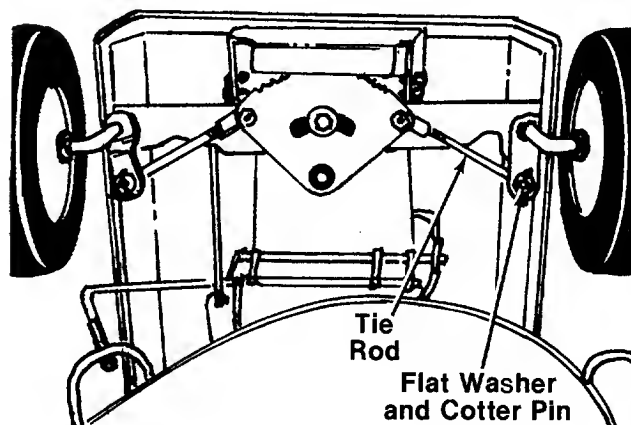

FIGURE 19.
The caster (forward slant of the king pin) and the camber (tilt of the wheels out at the top) require no adjustment. Automotive steering principles have been used to determine the caster and camber on the mower. The front wheels should toe-in $\frac{1}{8}$ inch. See figure 19. To adjust, follow these steps:
1. Remove the cotter pin and flat washer which hold the tie rod to the axle bracket. See figure 19.